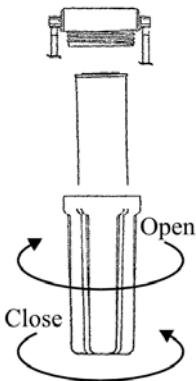

Figure 7
Open the bottom housings of the purifier (Figure 7) and place each of the filters in the corresponding housing according with the labels. Open the membrane housing from the right side, and insert the membrane through the double O-ring side; push gently (both O-rings must enter a hole located inside the housing). Close all housings. Connect the yellow tube to the membrane housing inlet fitting simply pushing the tube into the fitting. Place the purifier under the sink in the chosen space.
2. Open the filter housings. Use one hand to hold the system and the other hand to turn the housing clockwise to open (Figure 7).